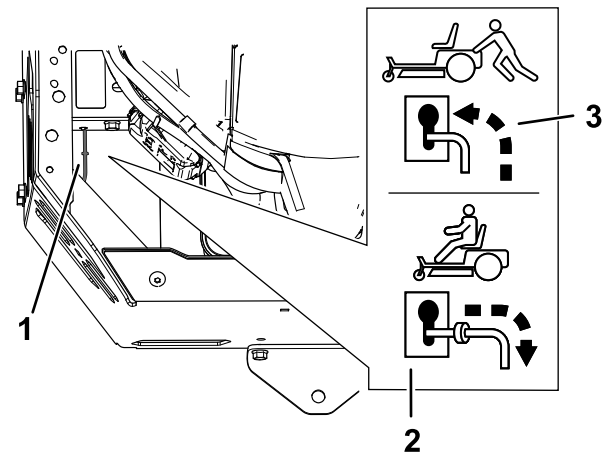

Figure 27
4. Move the bypass levers forward through the slotted hole and down to lock them in place (Figure 27).
Move the bypass levers rearward through the keyhole and down to lock them in place as shown in Figure 27.